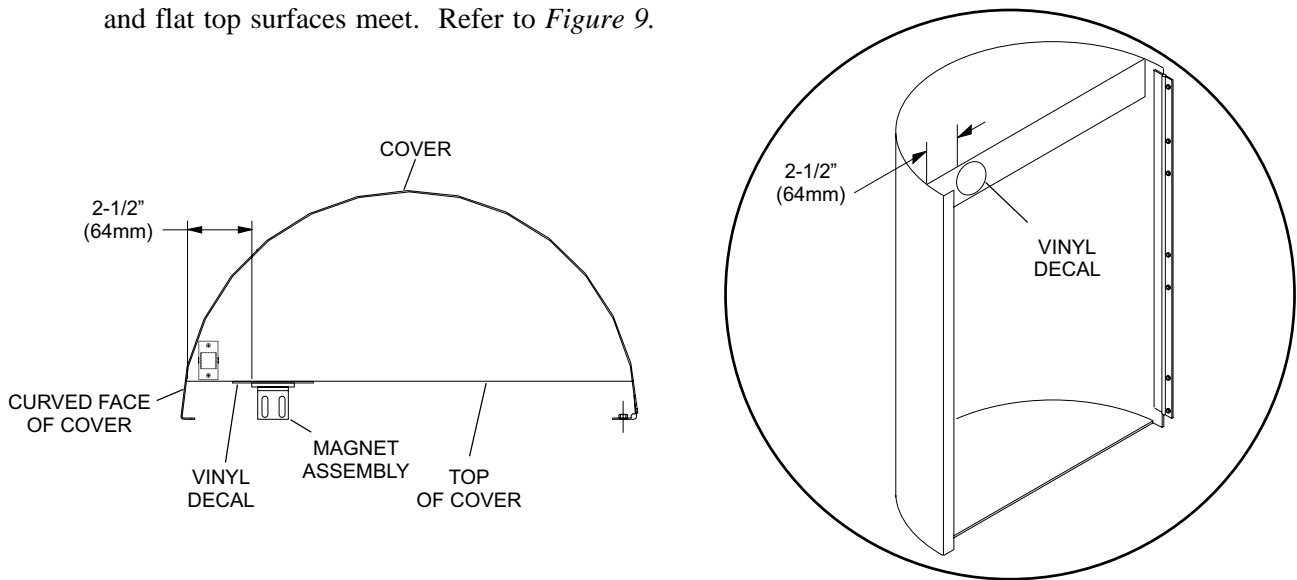

Figure 9
- Apply vinyl decal (P/N 54-200079-000) to the door 2-1/2" (64mm) from where the door's curved face and flat top surfaces meet. Refer to *Figure 9*.
- Attach magnet assembly to door in middle of decal. Refer to *Figure 9*.